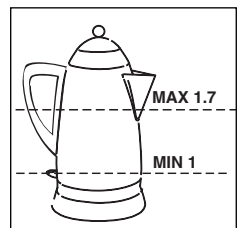

Fig.3
**If the kettle is overfilled, there is a risk that boiling water may overflow and cause burns. (fig.3)**